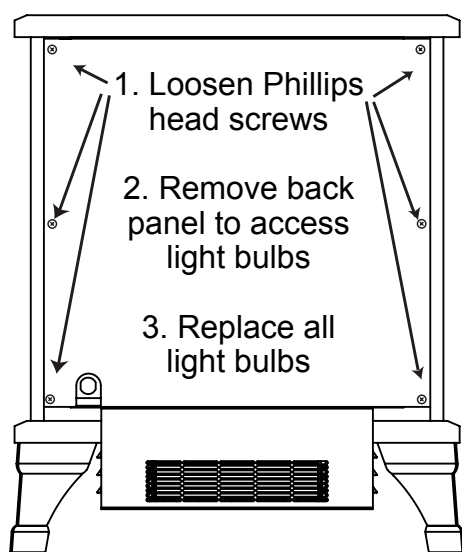

Fig. 6
3. Loosen the screws holding the stove back panel to the main body of stove (see Fig 6).